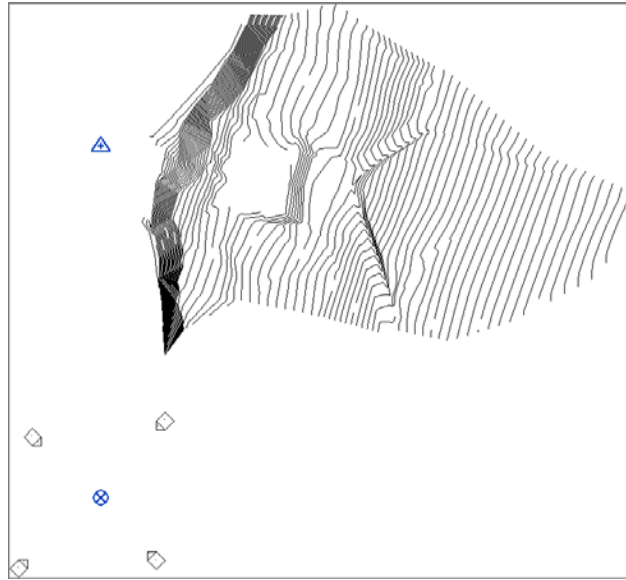

FIGURE 18.32: The linked site
10. Your site should be positioned as shown in Figure 18.32.